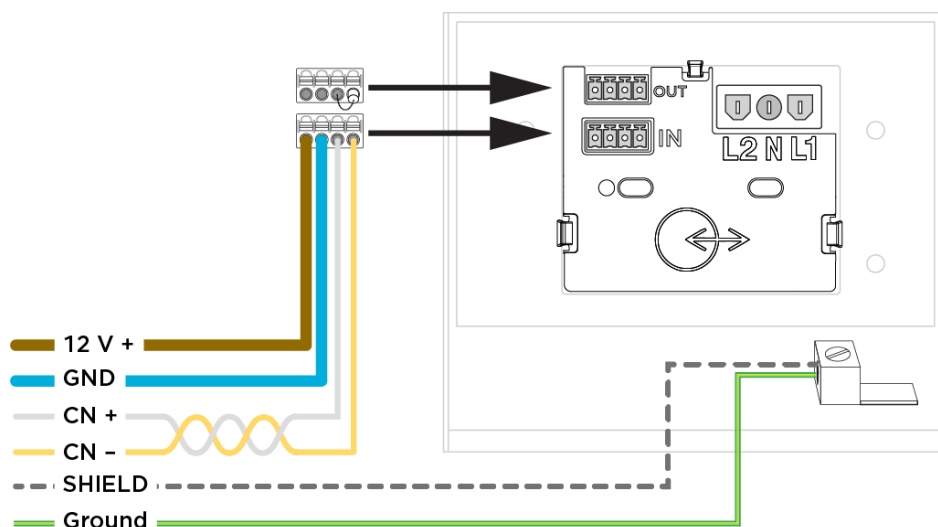

Figure 14: Powerwall Earth/Ground and Communication Connections with Terminating Resistor
12. Insert the grounding conductor and drain wire in the Powerwall chassis Earth terminal (Figure 14). The Earth terminal is identified with the following symbol: . Tighten the screw in the Earth terminal to 4.5 Nm.